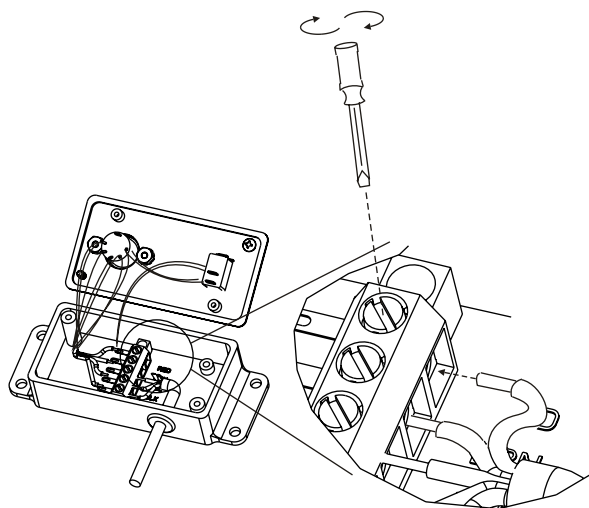

Figure 25-3
**5. Insert each color wire into their appropriately-labeled terminal.** Tighten each wire down after insertion. [Figure 25-3]